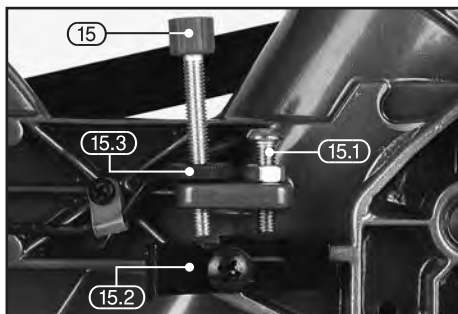

FIG.27
9.2 ADJUSTABLE DEPTH STOP – FIG.27
Stock No.79889 (Fig.27):